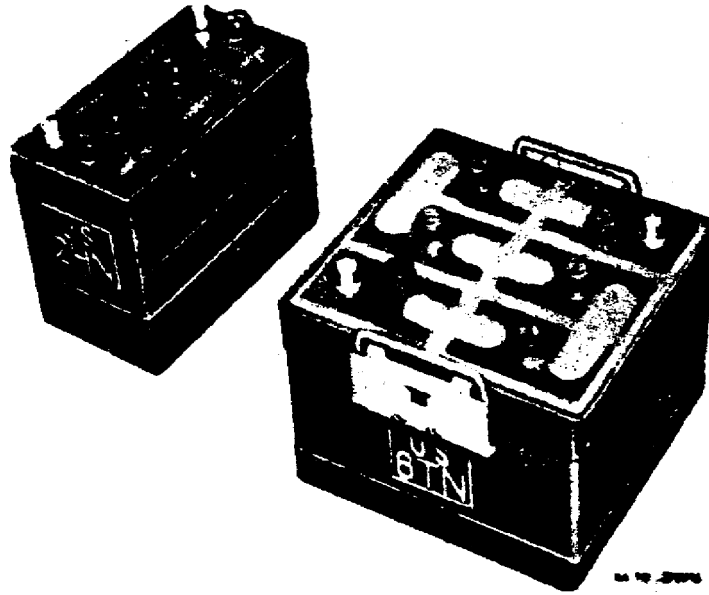

Figure 17. Batteries.
e. The top of each cell is fitted with a cell cover made from the same material as the container. Some batteries have cell covers made so that straps used to connect the cell terminals are exposed. On others, the connecting straps are covered and only two terminal posts are exposed. Regardless of the type of cover used, each cell cover is fitted with a vent plug which may be removed. To inspect the cell or to add water. To seal the battery after the cell cover is installed, the space between the edges of the cell covers and the container is filled with an acid-resistant battery sealing compound. Some form of seal is also used where the terminal post extends through the cover. The terminal posts are the output connections of the battery. The terminals are tapered and the positive terminal is slightly larger than the negative terminal (fig 17).